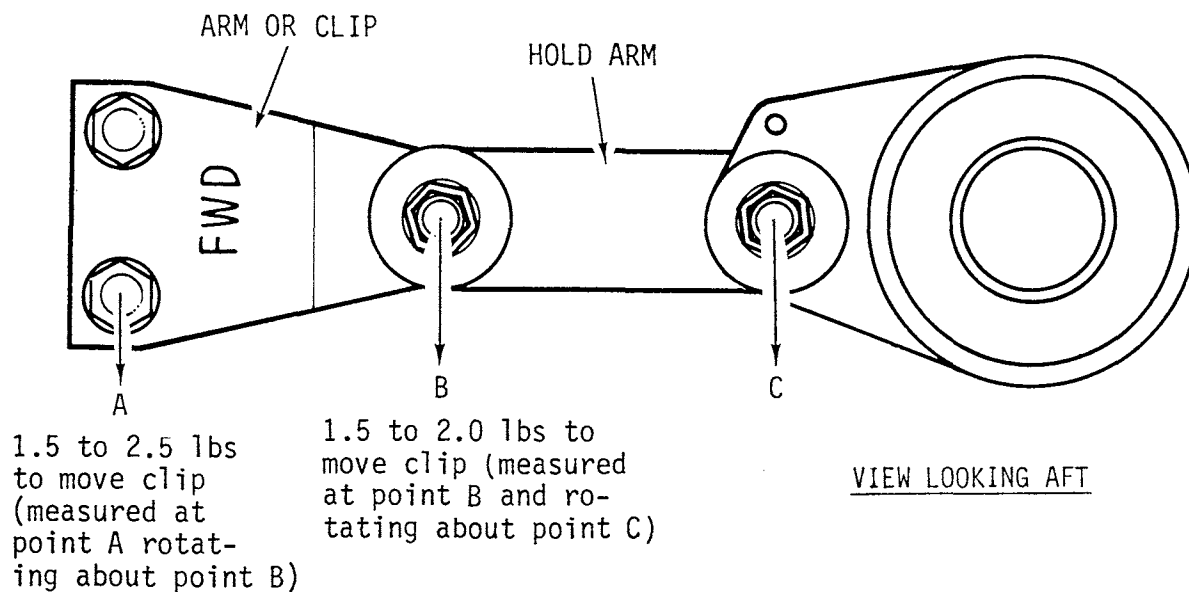

FIGURE 7-11A
- f) Using a spring scale or dead weight, measure pivot frictions per Figure 7-11A. If friction is less than specified, bend A041-6 spring washer until it has a  $0.070 \pm 0.010$  inch total height. If spring washer height is within limits but friction is still too low, lap metal from end of A105-9 journal. If friction is greater than specified, flatten A041-6 spring washer slightly or replace A105-9 journal.